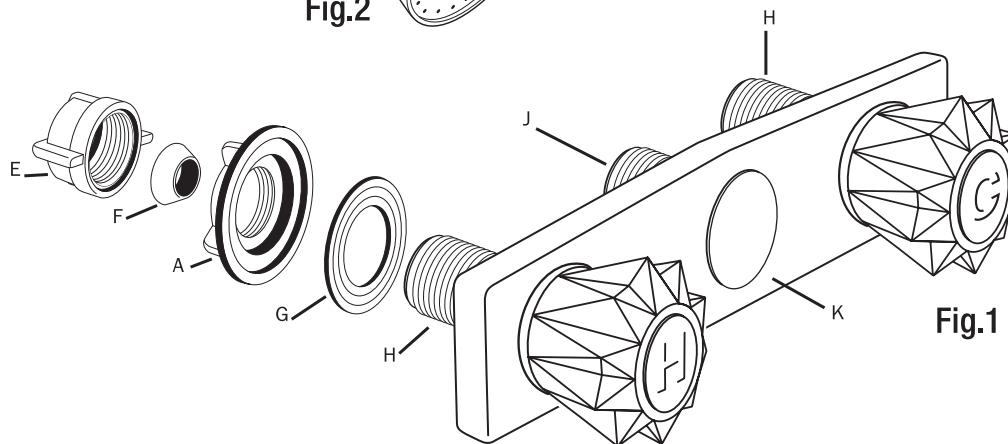

Fig.1
- NOTE:** There may be several different installation methods for this product. In some, it may be necessary to cut out a portion of the wall behind the Shower Arm (C) to access the Shower Riser (J) connection.
2. Disconnect the hot and cold supply lines and the Shower Riser (J) from old faucet. Mark supply lines hot or cold.
4. Mount new faucet (with back plate) by pushing the Faucet Shanks (H) through the shower wall.
5. Place Rubber Washers (G) onto hot and cold Faucet Shanks (H). Thread Rosette Nuts (A) onto hot and cold Faucet Shanks (H) to secure faucet. Reconnect Shower Riser (J) line.
6. If needed, place Wing Nut (E) and Cone Washer (F) (as shown in Fig. 1) onto hot and cold water supply lines. Insert supply lines into appropriate Faucet Shank (H). Push Cone Washer (F) to shank and secure line with Wing Nut (E).
6. Si es necesario, coloca tuerca de mariposa y arandela cónica (como se muestra en la Fig. 1) en las tuberías de suministro de agua fría y caliente. Inserta las tuberías de suministro en el vástago correspondiente del grifo. Empuja la arandela cónica en el vástago y asegura la tubería con la tuerca de mariposa.